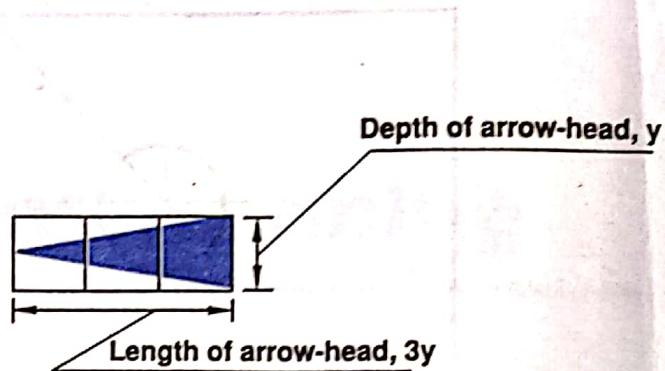

Fig. 3.6 Proportions of an arrow-head
- (iv) For arrow-heads used at the ends of dimension and leader lines, the length may be taken as three times the depth as shown in Fig. 3.6. The size of the arrow-head should be proportionate to the size of the drawing.